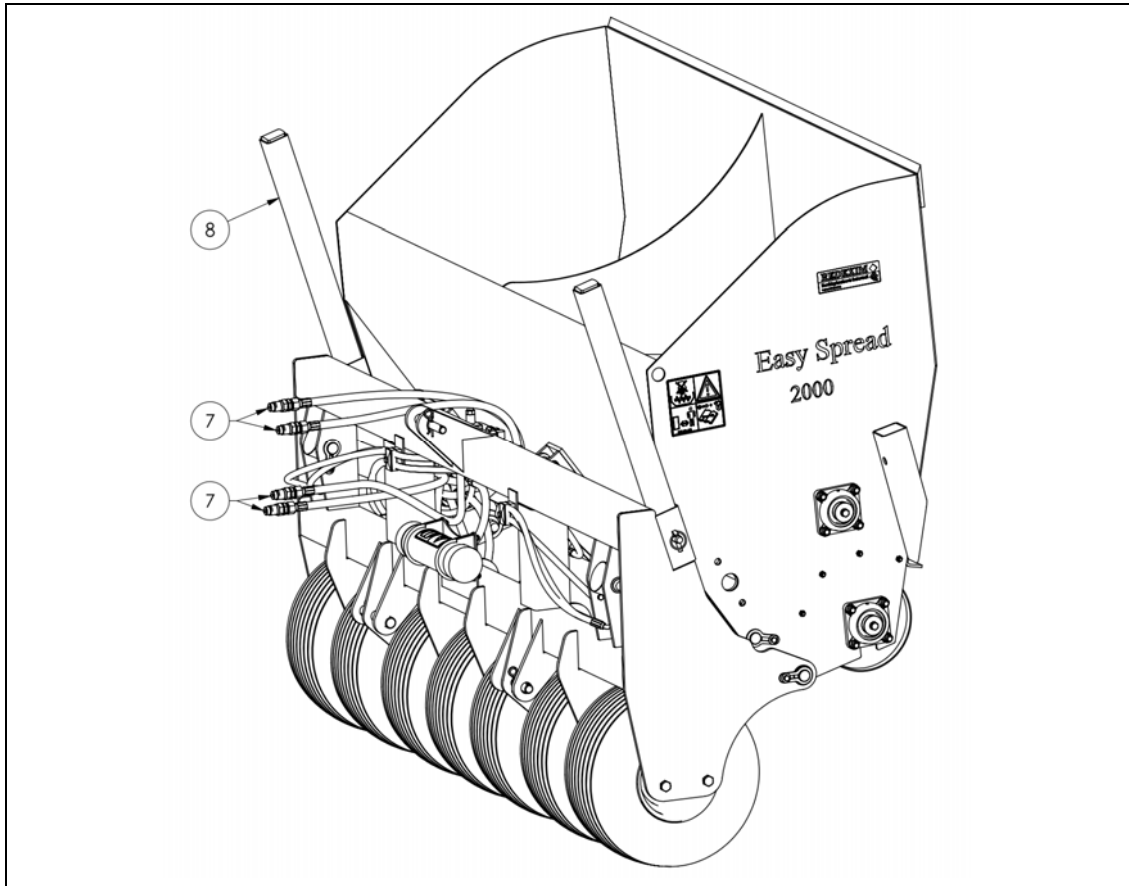

Figure 8
(figure 8).
10. Remove the adjustable legs (8) and mount them to the frame (figure 8).